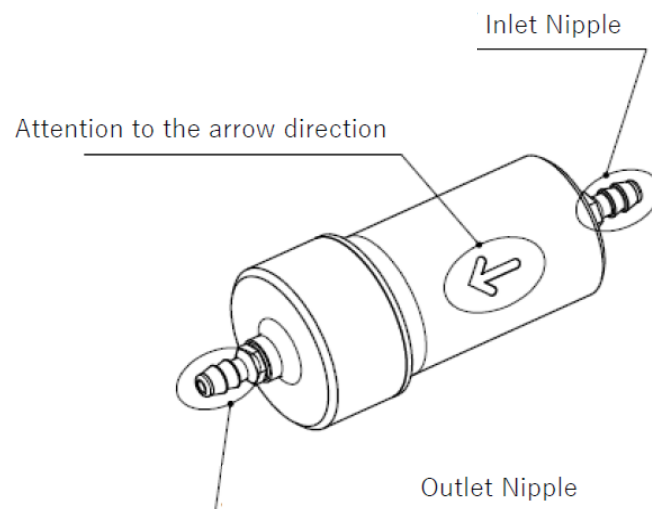

Fig.5.2
- (1) Use clips in the accessories or stainless steel wire ($\phi 0.6 \sim 0.8\text{mm}$) to fix tubes to pipes.
- (2) Piping from/to the fuel tank, the fuel filter, and the carburetor
- ① The fuel filter in the accessories must be used in the piping between the fuel tank and the carburetor. Attention for the direction of the fuel filter. See the drawing Fig.5.2.
- ② Length of each tube connection should have a margin of 10mm.
- ③ Fix the tubes not to flap during flight. Do not press the tubes too strong when fix them.